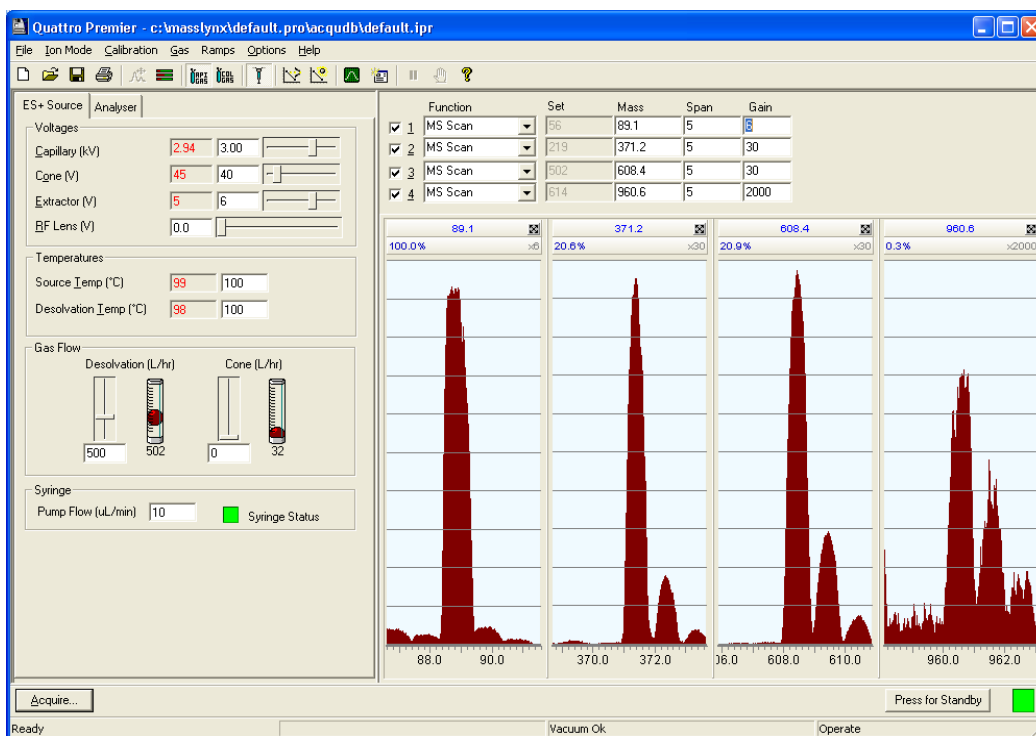

Figure 6-2 Tune Window with PEG Peaks
10. In the Tune window, observe the displayed PEG masses (Figure 6-2).